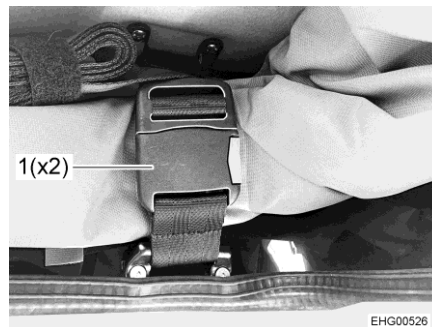

Fig. 68 Belt lock
- Open both belt locks (Fig. 68,1).